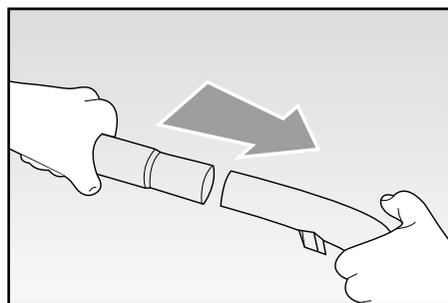

Fig. 3
- Insert the telescopic tube (O) into the handle (Fig. 3).